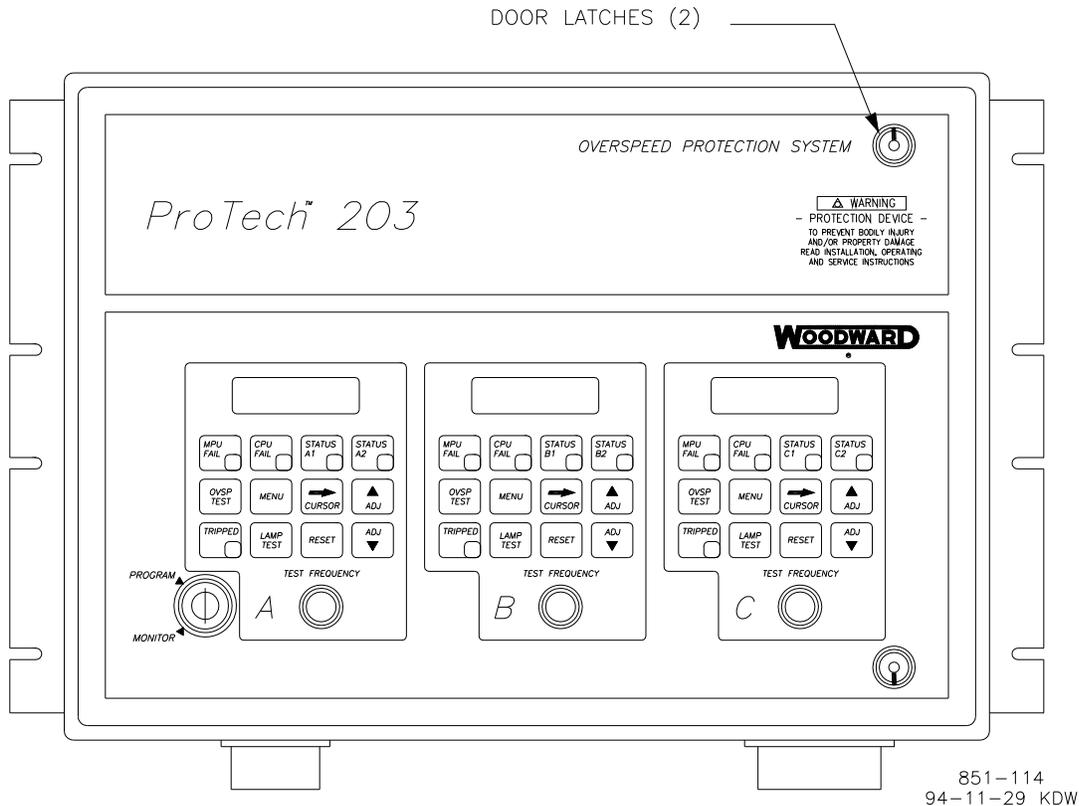

Figure 5-1. ProTech System Front Door
2. To open the front door, turn the two door latches counterclockwise (see Figure 5-1).
2. To open the front door, turn the two door latches counterclockwise (Figure 5-1).
10. Attach both ribbon cables to the I/O board (Figure 5-1).